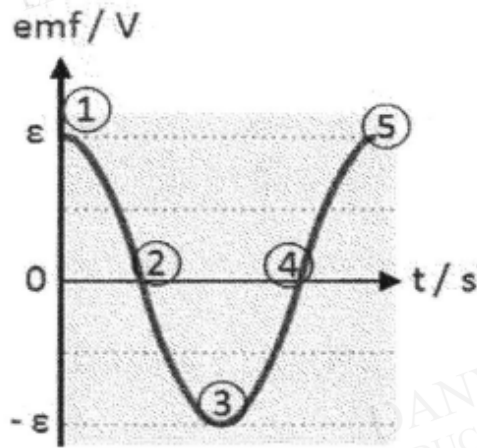

Fig. 11.2
- (b) The rotation of the coil when cranked by hand produces a sinusoidal voltage output as shown in Fig 11.2.